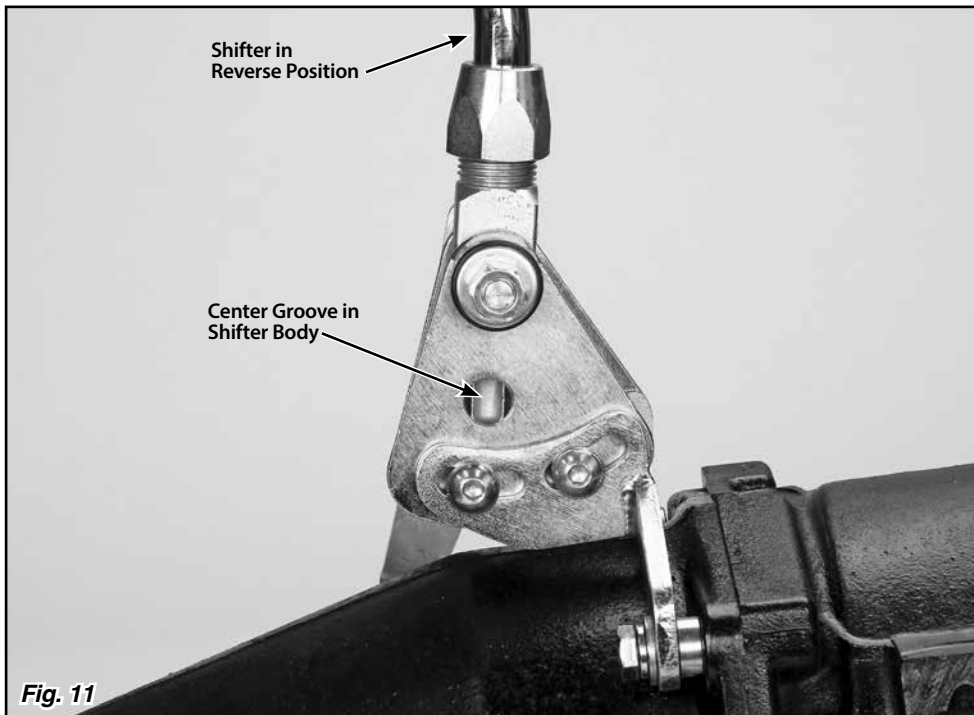
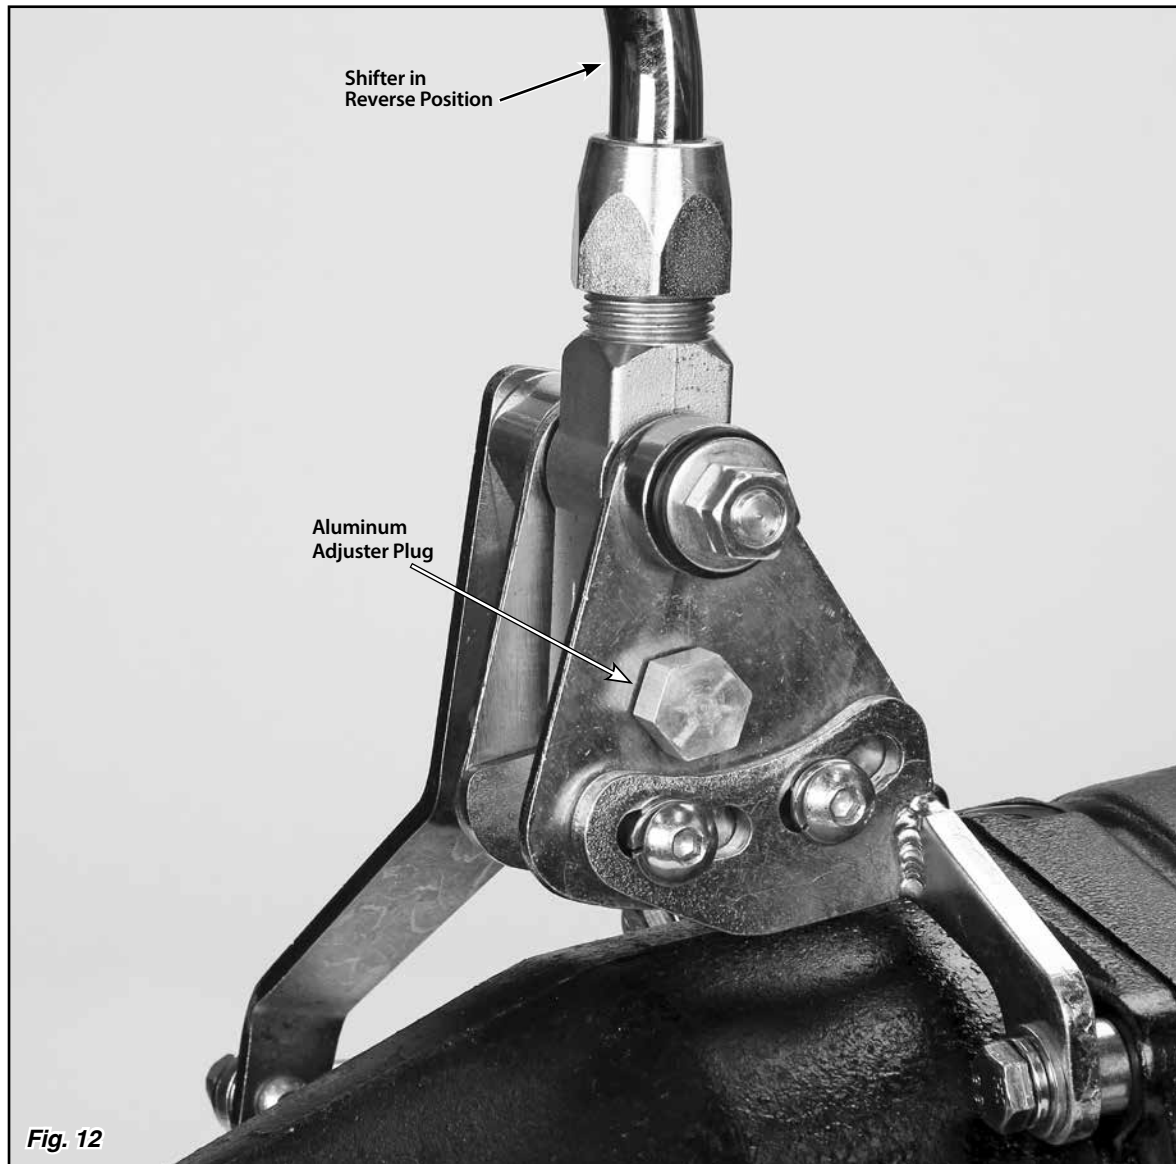

Fig. 11
Fig. 12
Step 16: Put the Shifter into the Reverse position. Reposition the switch plate so that the hole in the switch plate lines up with the center groove in the shifter body. **Fig. 11** Screw the provided aluminum adjuster plug into the neutral safety switch opening. Wiggling the switch plate slightly forward and back while you are screwing the aluminum adjuster plug in will help get the shifter body centered on the adjuster plug. **Fig. 12**
- If there are (2) connections for a neutral safety switch, run a #12 (or heavier) stranded wire from these terminals in your fuse panel to the (2) terminals on the neutral safety switch. That completes the neutral safety switch wiring.